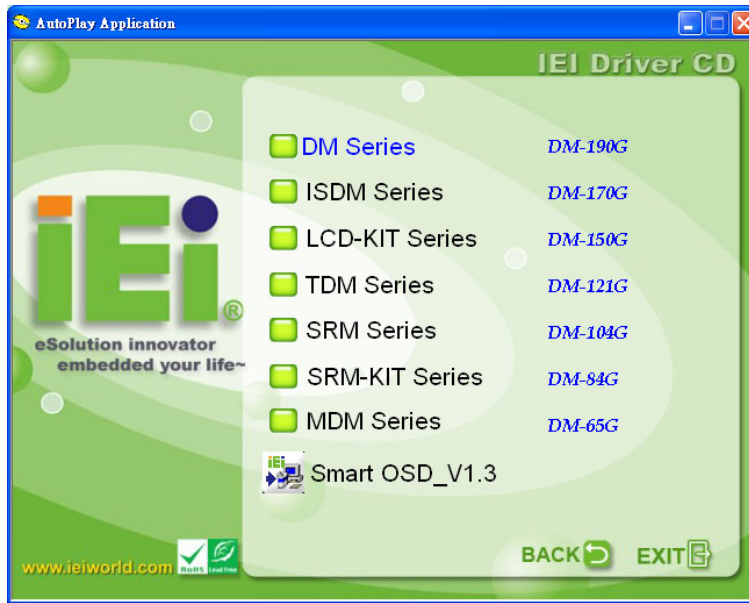

Figure 8-2: smartOSD Installer
Step 1: When the CD is installed, the screen shown in **Figure 8-2** appears.
Step 2: Click “Smart OSD” in **Figure 8-2**.